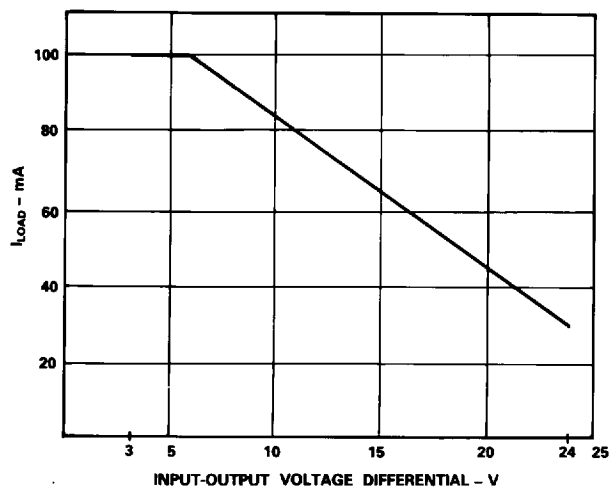
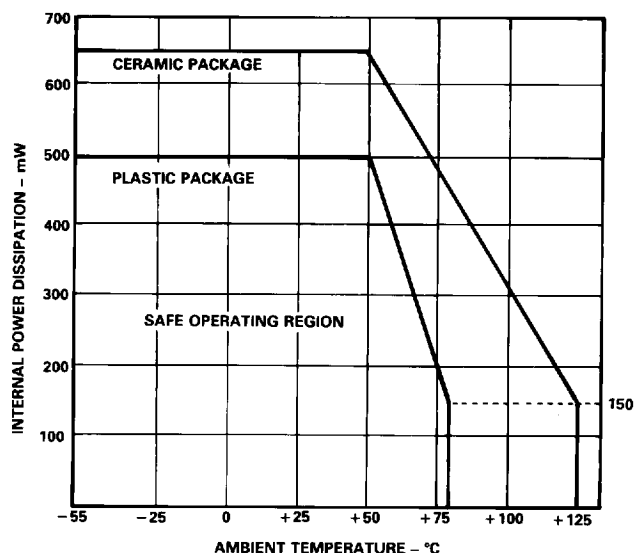

Figure 13. Excitation Source Input - Output Voltage Differential vs. Load Current; Ambient Temperature  $\leq 25^\circ\text{C}$ .
Figure 14. Excitation Source Internal Power Dissipation vs. Temperature
**Bridge Excitation:** The adjustable bridge excitation is specified over a wide regulator input voltage range ( $+9.5\text{V}$  to  $+28\text{V}$ ). Maximum load current  $I_L$  as a function of regulator input-output differential voltage is shown in Figure 13. The maximum output current also depends on ambient temperature and above  $50^\circ\text{C}$  a derating factor should be derived from Figure 14.